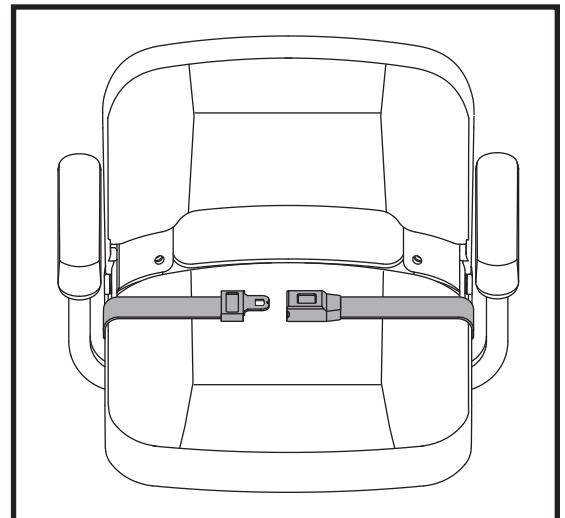

Figure 17. Positioning Belt
Your scooter seat may be equipped with an auto-type positioning belt that can be adjusted for operator comfort. See figure 17. The positioning belt is designed to help support the operator so that he or she does not slide down or forward in the seat. The positioning belt is not designed for use as a restraining device.
1. Insert the metal tab on the right side of the belt into the plastic housing on the opposite strap until you hear a “click.” See figure 17.